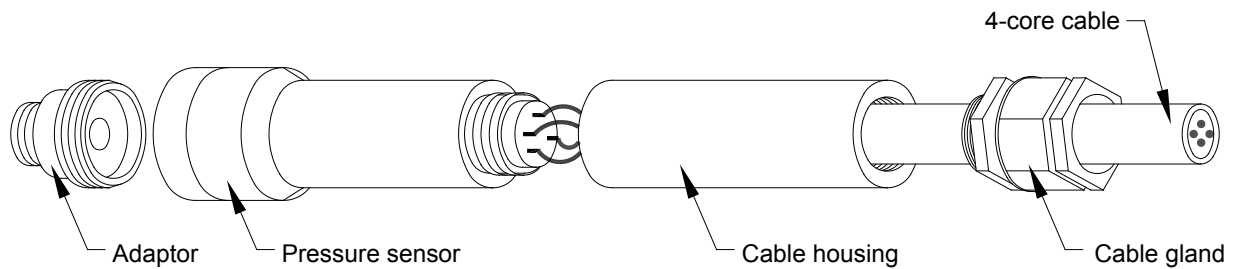

Figure 3.2
The vibrating wire and coil magnet assembly is enclosed in a stainless steel body (figure 3.2) which is electron beam welded to the diaphragm. This results in a vacuum of around 1/1000 Torr inside the sensor resulting in it becoming immune to effect of any ingress of water and other corrosive materials that may be present in the water.
- 2.7.7 Cable joint housing (refer figure 3.2)